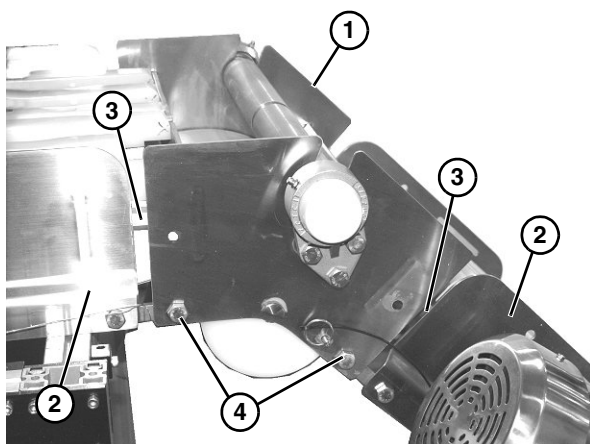

Figure 20
1. Attach upper knuckle (**Figure 20, item 1**) to frame (**Figure 20, item 2**) with hex rods (**Figure 20, item 3**) and bolts (**Figure 20, item 4**).